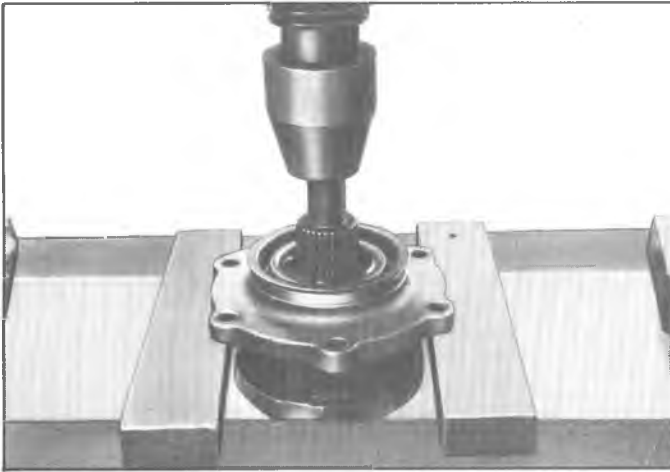

Fig. 10E—Pressing Drive Pinion from Bearing Retainer
5. Support the bearing retainer as shown in figure 10E and press out the drive pinion. Do not allow drive pinion to fall onto the floor.